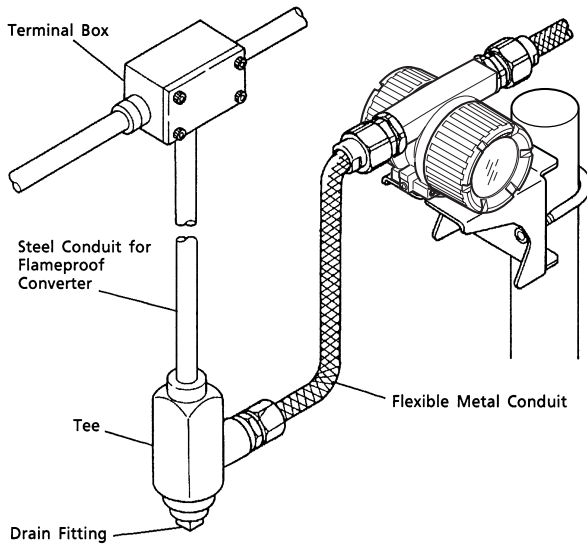

Figure 3.9
- (1) Lay wiring as far as possible from electrical noise sources such as large transformers, motors and power supplies.
- (2) It is recommended that crimp-on type solderless lugs be used for large wire ends.
- (3) For general use, it is recommended that conduits and ducts or racks be used to protect wiring from water or mechanical damage. A rigid steel conduit or flexible metal conduit is recommended. See Figure 3.9.